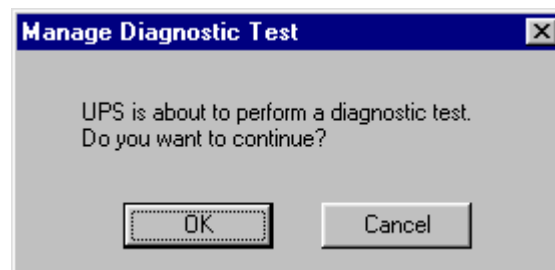

Figure 40. Manage Diagnostic Test Dialog Box
2. In the Manage Diagnostic Test dialog box, click OK (see Figure 40).